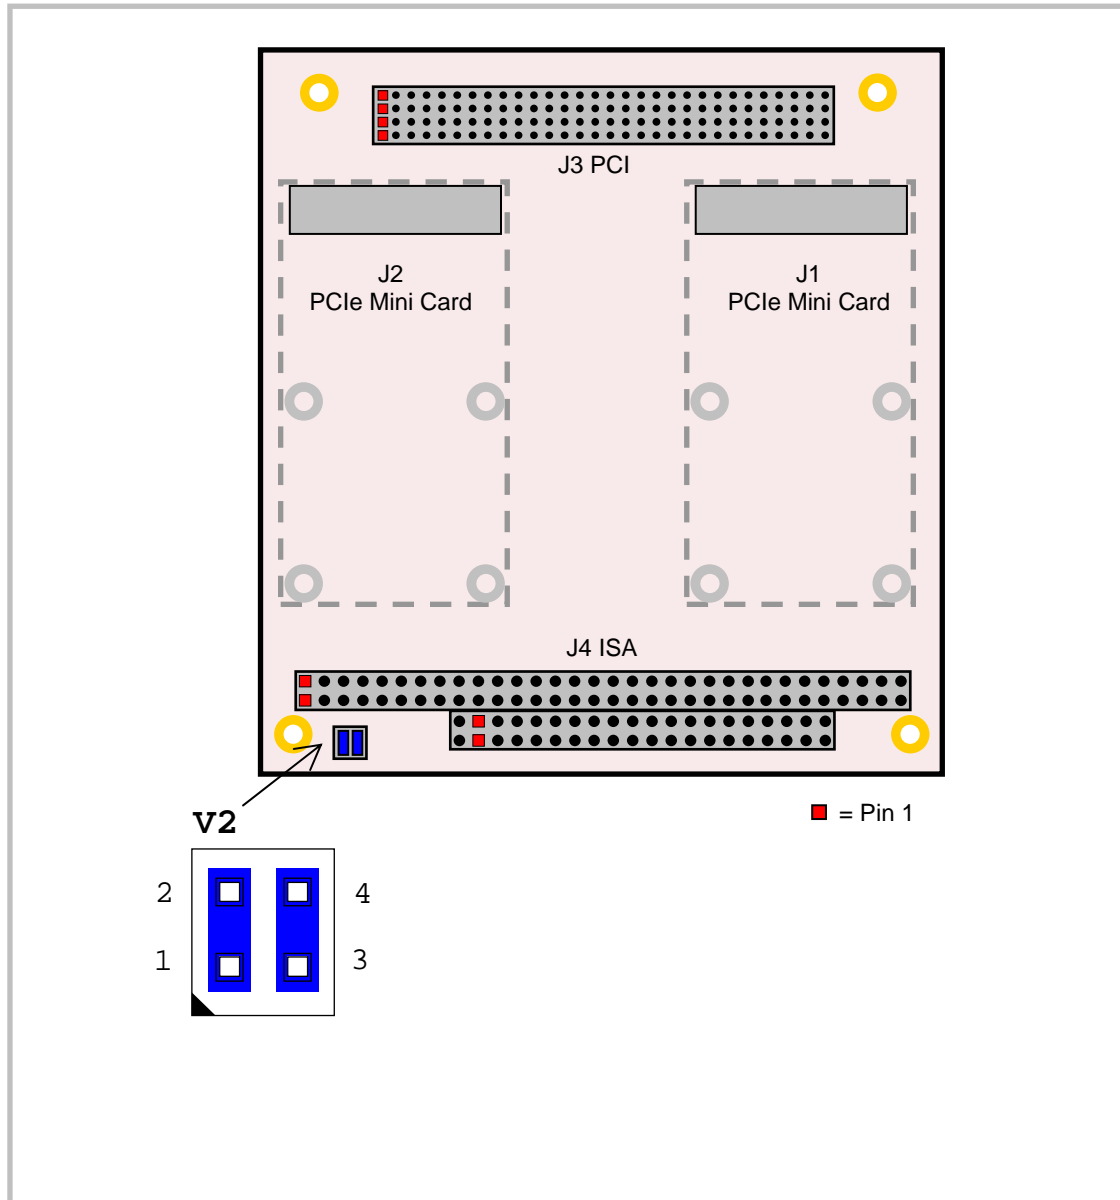

Figure 3. VL-EPM-P2 Connectors and Jumper Blocks – Top Side
1. Origin is the lower left mounting hole as shown in Figure 3. All coordinates in inches.